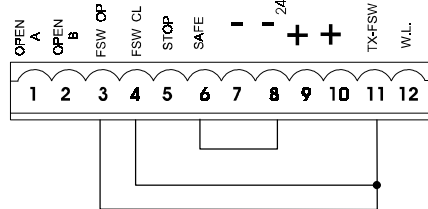

Fig. 26
N.B. If safety devices are not used, jumper connect the terminals as shown in fig. 26.
NB.: If no opening safety devices are connected, jumper connect inputs **FSW OP** and **-TX FSW** (fig. 26).
NB.: If no closing safety devices are connected, jumper connect terminals **FSW CL** and **-TX FSW** (fig. 26).
NB.: If edge safety devices are not connected, jumper connect the **SAFE** and **-** inputs (fig. 26).